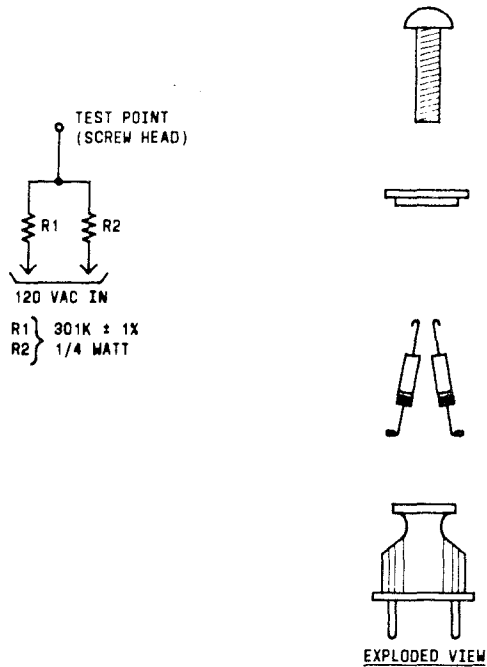

Fig. 2—Exploded View of Test Set
2.02 ♦When inserted into a 120 Vac outlet, this test set provides a current-limited voltage of approximately 60 Vac. An exploded view of the test set is shown in Fig. 2. The resistors of the voltage divider